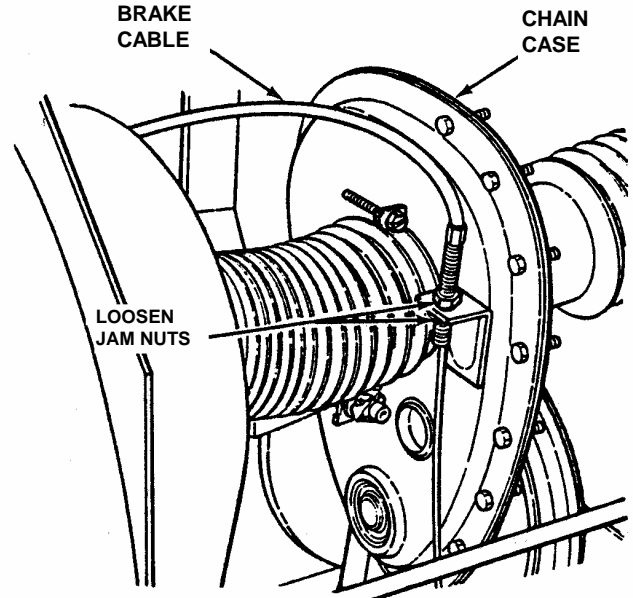

FIGURE 4.8
6. If measurement is less than 1/2" or greater than 3/4", loosen the two jam-nuts (shown in Figure 4.8) holding the clutch/brake cable to the chain case bracket.